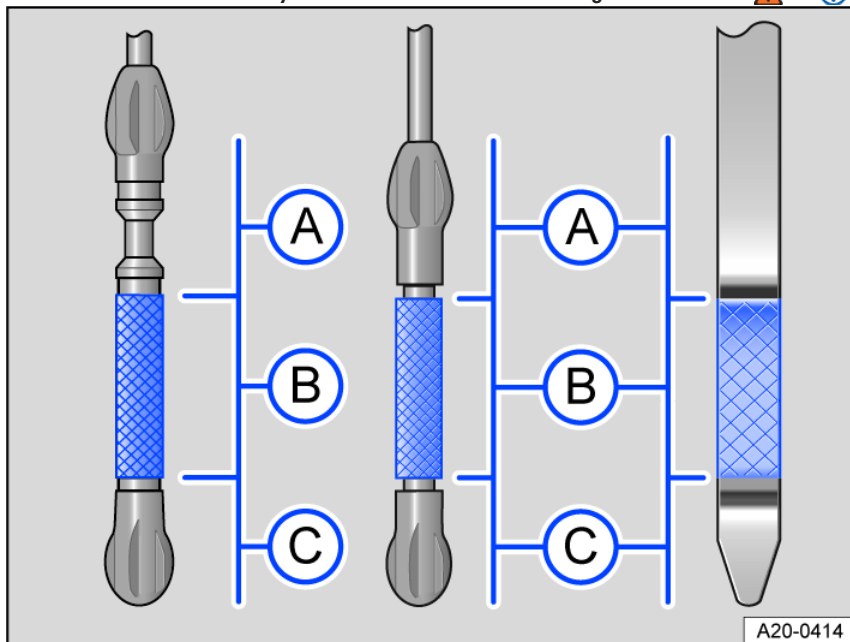
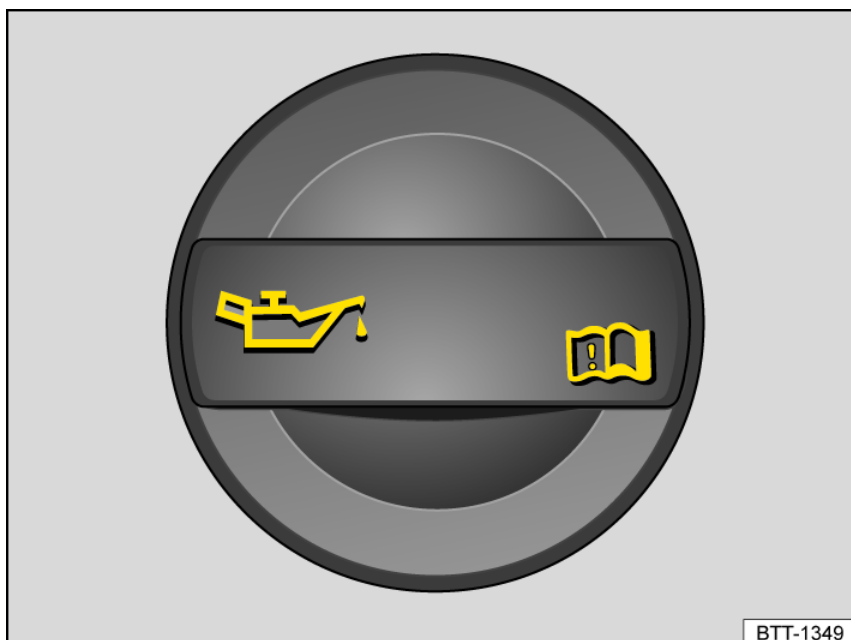

Fig. 154 Engine oil level markings on the oil dipstick (versions).
Fig. 155 In the engine compartment: engine oil filler cap (general example).
4. Find the engine oil filler and the dipstick. You can identify these by the 🛢 symbol on the engine oil filler cap *fig. 155* and the colored handle on the dipstick *fig. 154*. If you are not sure where the cap and the dipstick are located, contact an authorized Volkswagen dealer or authorized Volkswagen Service Facility for assistance.
7. Remove the dipstick again and read the oil level on the dipstick as described below *fig. 154*:
9. Remove the cap on the engine oil filler *fig. 155*.
13. When you are done adding oil, the oil level should be in the center of area *fig. 154* Ⓑ. The engine oil level must not be in the area *fig. 154* Ⓐ.
14. If you accidentally add too much oil and the oil level is in area *fig. 154* Ⓐ, **do not start the engine**. Contact an authorized Volkswagen dealer or authorized Volkswagen Service Facility for assistance.
- If you accidentally add too much oil and the oil level is in area fig. 154 A, do not start the engine. Contact an authorized Volkswagen dealer or authorized Volkswagen Service Facility for assistance if necessary. Otherwise, the catalytic converter and the engine could be damaged.